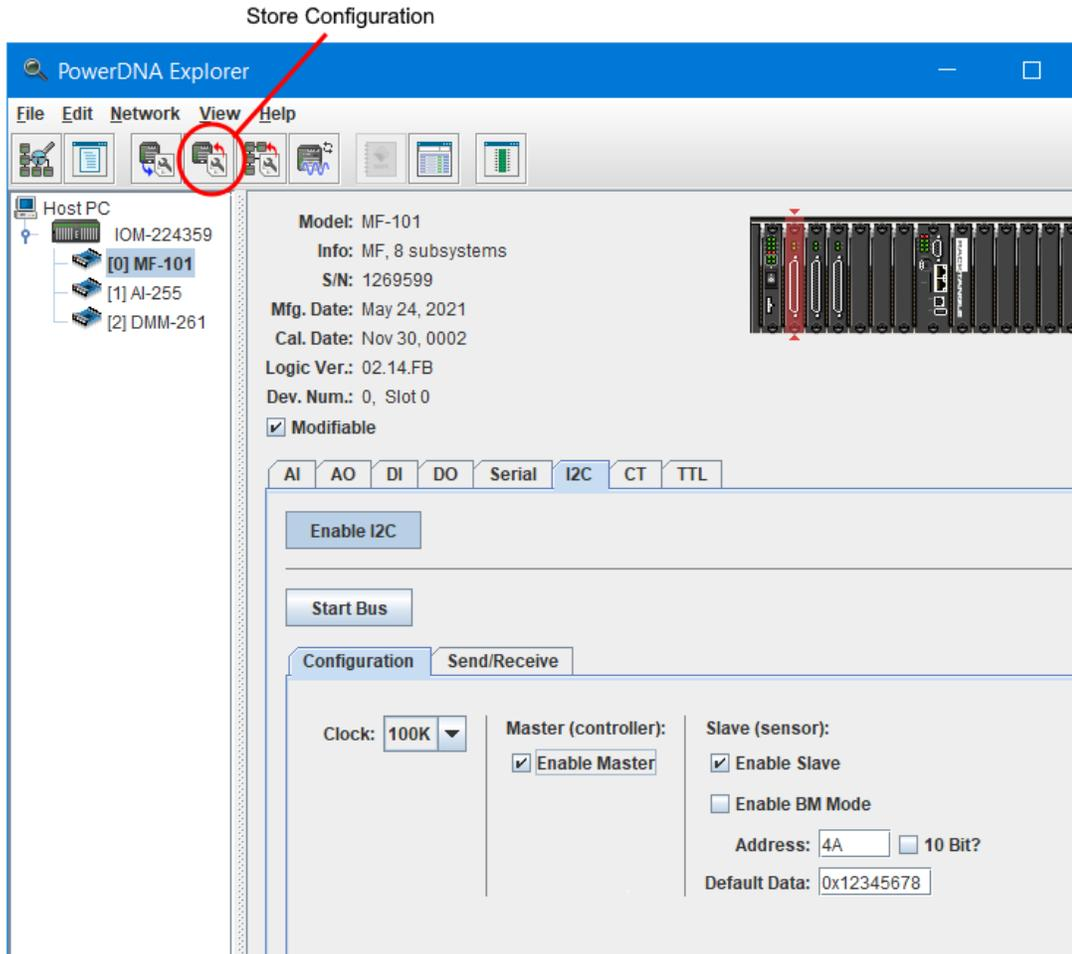

Figure 5-13 Power DNA Explorer I²C Tab, Configuration Subtab
The I²C Configuration subtab (**Figure 5-13**) contains the following settings:
1. Enable both master and slave modules as shown in **Figure 5-13**. In this example, the slave address is set to 0x4A and its TX register is loaded with 0x12, 0x34, 0x56, and 0x78.
1. Enable both master and slave modules as shown in **Figure 5-13**. In this example, the slave address is set to 0x4A.